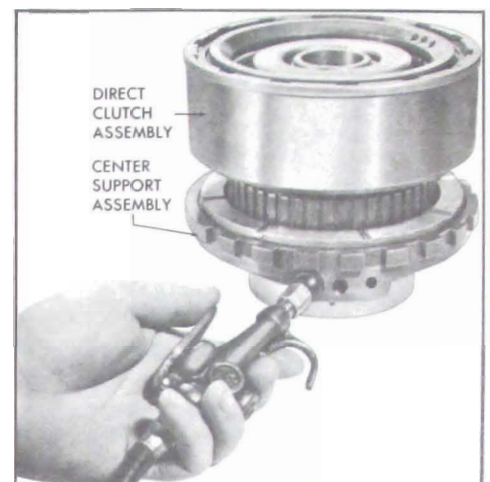

Figure 5-657
16. Place direct clutch assembly over center support and air check operation of direct clutch. See Figure 5-657.